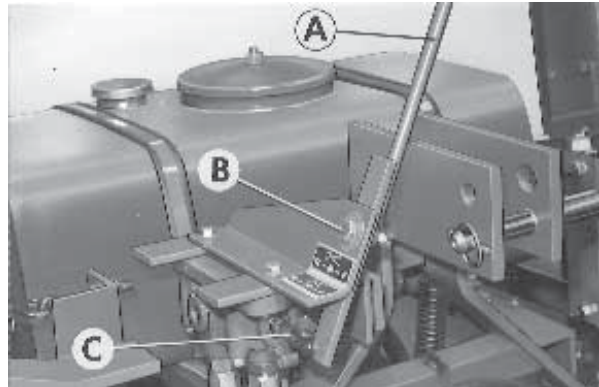

Fig.7
1. Cutting cylinder drive (Fig. 7)